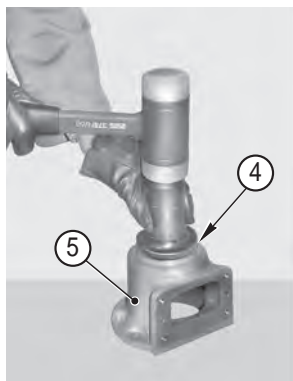

FIGURE 16: Using an appropriate driver, fit the seal ring (4) in the support (5).
FIGURE 16: Leave the released satellite gear (17) in position and again lock tool T1 (See drawing T1 p. 61). Repeat the operations for the extraction of the pin of the 2nd satellite gear (17) and thrust washer (16). Repeat the operations for all other pins.